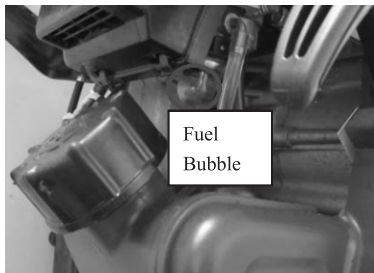

Figure 4
1. Before first starting of the new machine, repeat press the transparent fuel bubble (See Figure 4) to fully fill the Carburetor with fuel. (When the refrigerator starts, turn off the ventilation door. When the gasoline engine starts, open the ventilation door and turn on the spanner)